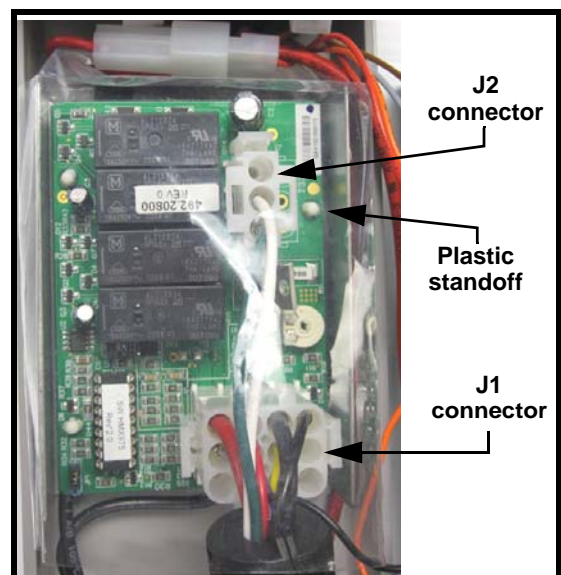

Fig. 26
- 2) Unplug J1 and J2 connectors (see Fig. 26).
- 4) Replace the new main PCB circuit in place as shown on Fig. 26, pushing it onto the plastic standoffs.